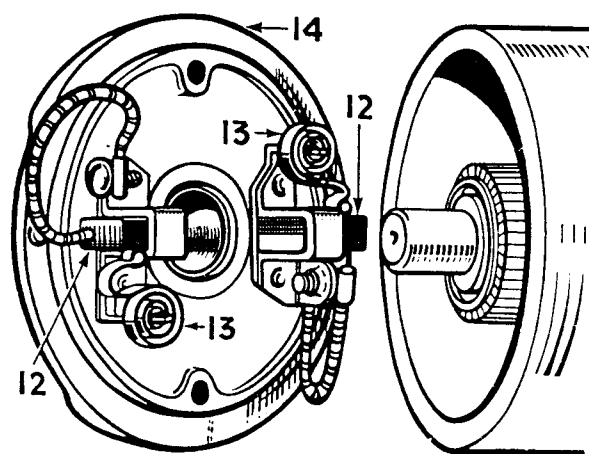

FIG. 7
1. If the armature (9) has been removed from the driving-end bracket, first press the armature shaft (10) into the bearing in the end bracket and then fit the armature in position in the dynamo housing and locate the driving-end bracket (11) on the dowel.
2. Raise the brushes (12) in their holders and wedge in this position by locating the springs (13) on the sides of the brushes as shown in Fig. 7.